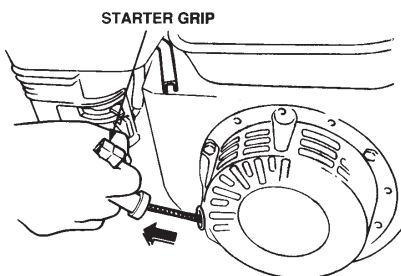

Figure 28. Starter Grip
5. Grasp the starter grip (Figure 28) and slowly pull it out. The resistance becomes the hardest at a certain position, corresponding to the compression point. Pull the starter grip briskly and smoothly for starting.